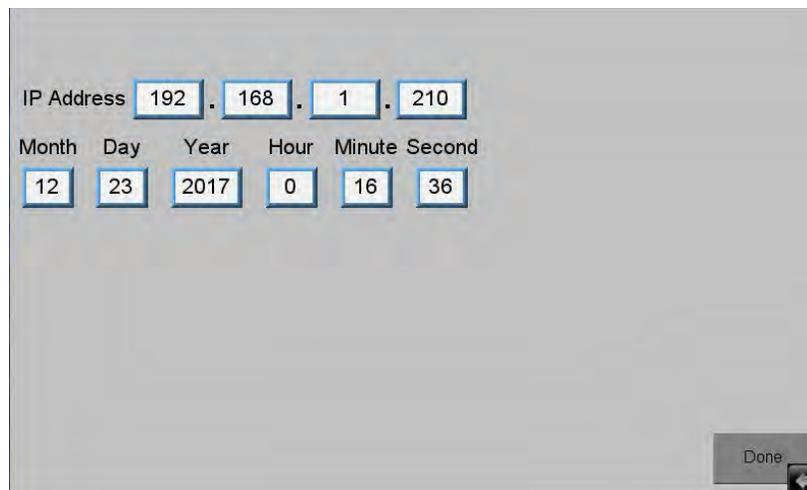

Figure E.8: Miscellaneous Screen
Figure E.8 illustrates the Miscellaneous Screen. It is shown anytime the MISCELLANEOUS button is pressed on the Configure Screen.
- Figure E.8 - Miscellaneous Screen 16